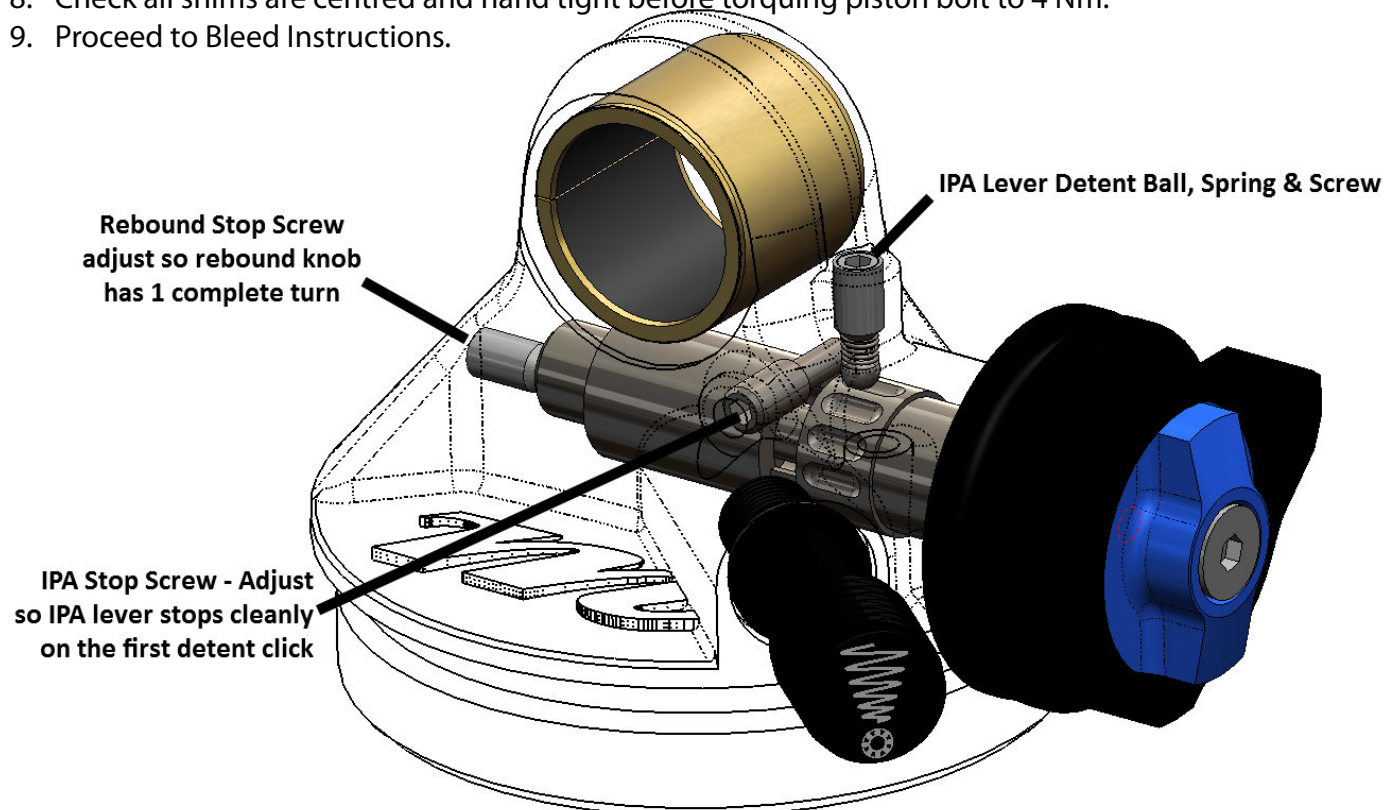

Figure 11. Shock head adjustments.
3. Set IPA lever stop screw (Figure 11) so it stops nicely on the first click.
6. If shims are too loose then install 10 x 14 x 0.1 mm shims (2) between platform and compression shims and recheck float as #4 above.
6. If shims are too loose then install 10 x 14 x 0.1 mm shims (2) between platform and compression shims and recheck float.